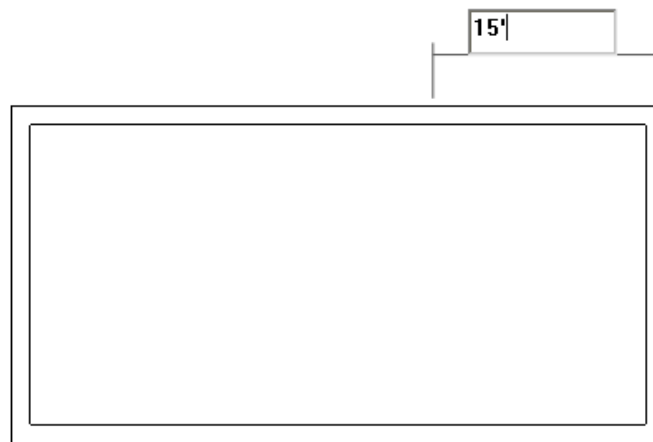
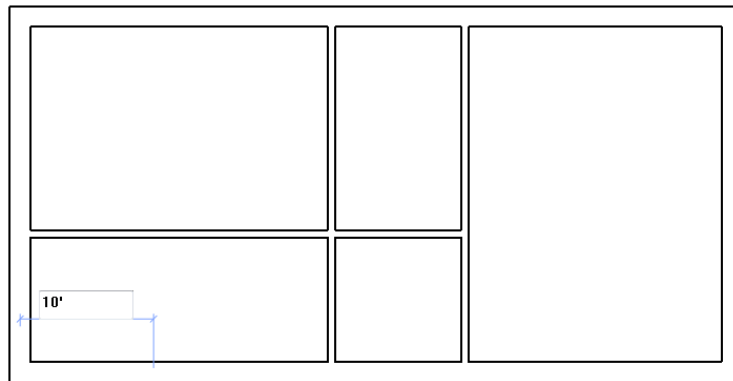

Figure 3-56 Specifying the distance for starting the first interior wall segment
Figure 3-62 Sketching the interior walls of the bath
- e. Sketch the interior walls based on the given parameters, refer to Figures 3-56 through Figure 3-62.
2. Type **15'(4572 mm)** from the keyboard, as shown in Figure 3-56. Now, press ENTER; the starting point of the first interior wall is specified.
5. Similarly, move the cursor near the lower left corner and then move it horizontally toward the right. When the temporary dimension and the intersection object snap appears, enter the value **10'0"**, as shown in Figure 3-62, and then press ENTER.